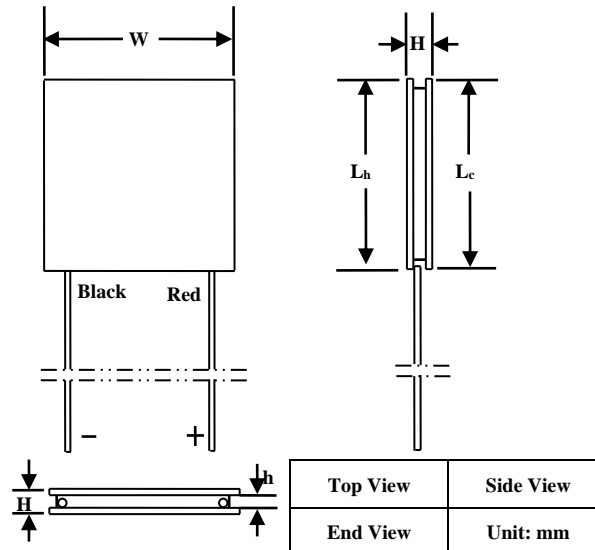

Figure 6. Mechanical Dimensions of ATE1-288
**Note:** As Figure 6 shows, when the red lead wire is on the right, then the top surface is the cold side of the TEC.